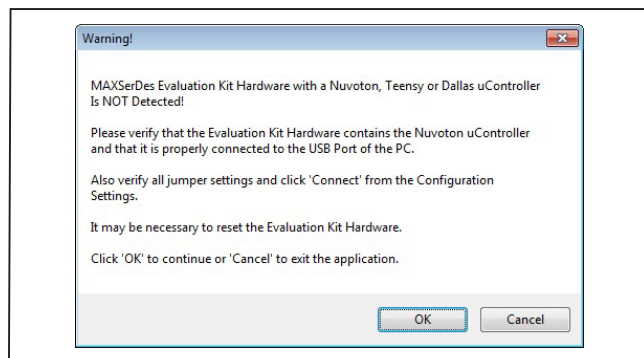

Figure 2. MAXSerDesEV-N EV Kit Software: Warning! (Nuvoton Microcontroller is Not Detected!)
- 13) In case an operating evaluation board with a Nuvoton microcontroller is not found, a window opens, warning as such (Figure 2). Press **OK** to continue and start the GUI anyway or press **Cancel** to terminate the application. Consult the Troubleshooting section and fix the problem before continuing.